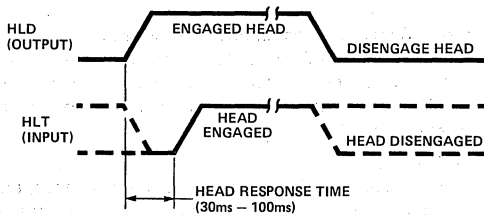

Figure 4. HLD/HLT Timing Example
- **HLT (Head Load Timing)** — The low to high transition of this input indicates that a sufficient time has elapsed for the drive's head to become engaged. It typically follows HLD going high, by a time delay which is dependent on the particular drive's characteristics. If not available from the drive electronics, this input must be generated by the user (typically by means of one-shot timers). Figure 4 illustrates an example of HLD and HLT timing.